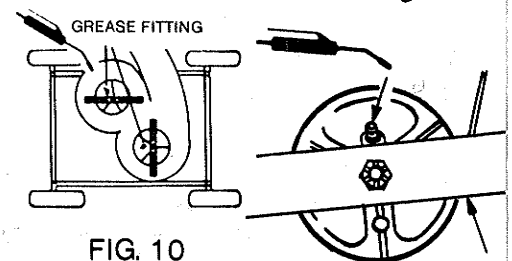

FIG. 10
6. At the end of each mowing season lubricate blade spindle bearings. Turn mower over on its left side and locate grease fitting on each spindle housing and clean (See Fig. 10). With a hand grease gun apply grease slowly until the grease begins to come out of the relief groove on the side of the fitting.